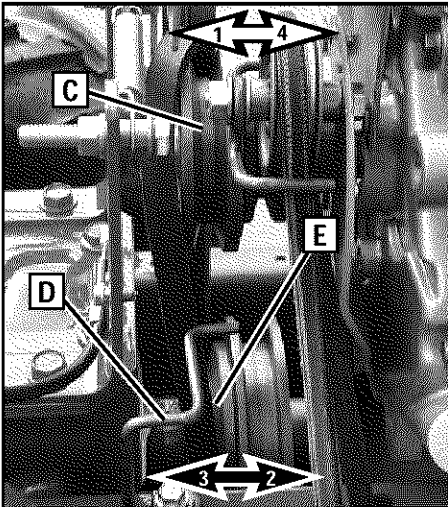

Figure 5-18: Right-side view.
5. Slide the forward clutch belt off the engine pulley (C, Figure 5-18), away from engine (in the direction of arrow 1), out from behind the belt guide (D), and completely off the pulley.
6. Slip the belt off the front of the transmission pulley (E, Figure 5-18, in the direction of arrow 2).
4. Insert the bottom half of belt into the smaller, rear-most groove of the transmission pulley (E, Figure 5-18, in the direction of arrow 3). Now slip the top half of belt behind the belt guide (D, Figure 5-18, in the direction of arrow 4) and onto the large groove of engine pulley (C, Figure 5-18).